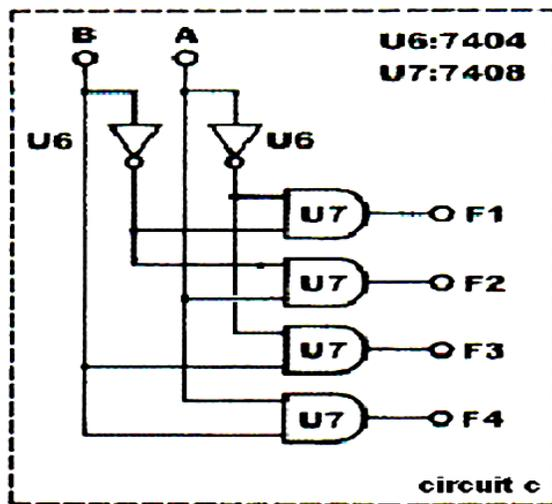

Fig. 2-68
1. Two separate input/output sequences for the decoder circuit of Fig. 2-68 are given below. Determine the fault(s) in each case.